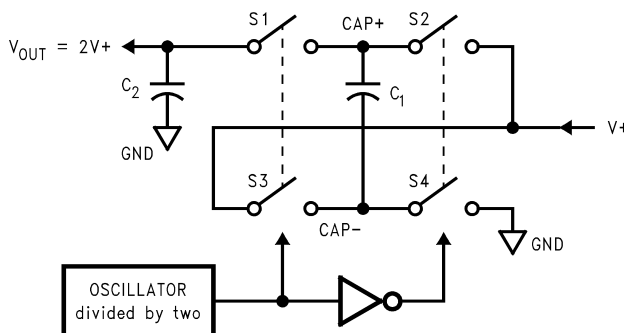

Figure 12. Voltage Doubling Principle
- $R_{SW}$  is the sum of the ON resistance of the internal MOSFET switches shown in Figure 12. (1)